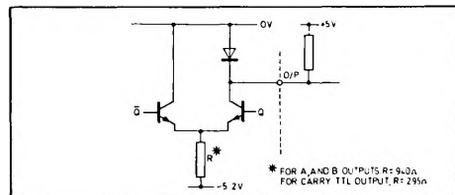

Fig. 4 TTL output circuit diagram
3. These outputs are current sources which can be readily made TTL compatible voltages by connecting them to +5V via 10k Ω resistors (see Fig. 4).
The devices are intended to be used with TTL and ECL in a counting system — the ECL and the decade counter being connected between voltage rails of 0V and -5.2V and the TTL between voltage rails of 0V and +5V. Provided that this is done ECL and TTL compatibility is achieved. (See Figs. 4 and 5)